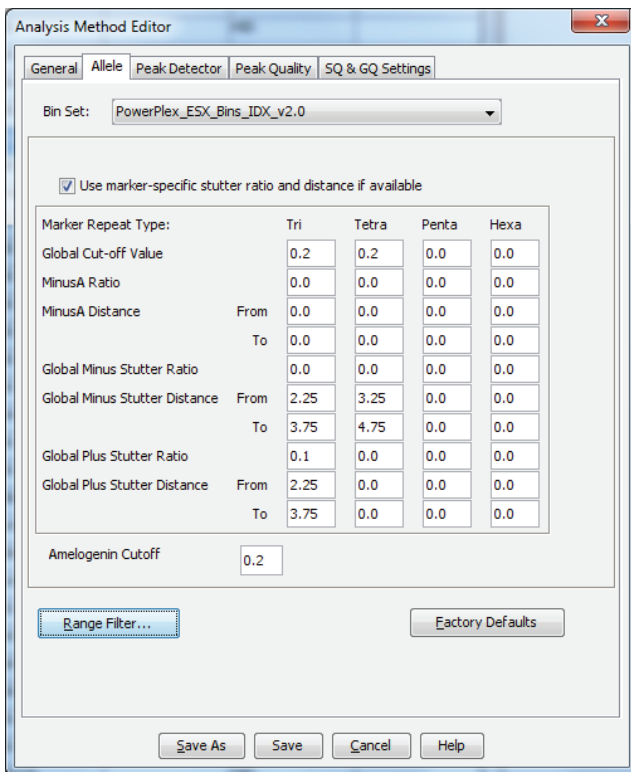

Figure 15. The GeneMapper® ID-X ‘Allele’ tab.
6. Select the ‘Allele’ tab (Figure 15).
8. Ensure that the “Use marker-specific stutter ratio and distance if available” box is checked. Doing this will assign locus-specific stutter filters and distances from the imported stutter file. Ensure that the appropriate global filter is applied to this analysis method. For example, for a 20% filter enter “0.20” for the Amelogenin Cutoff and Global Cutoff Value for Tri and Tetra repeats (Figure 15). In-house validation should be performed.